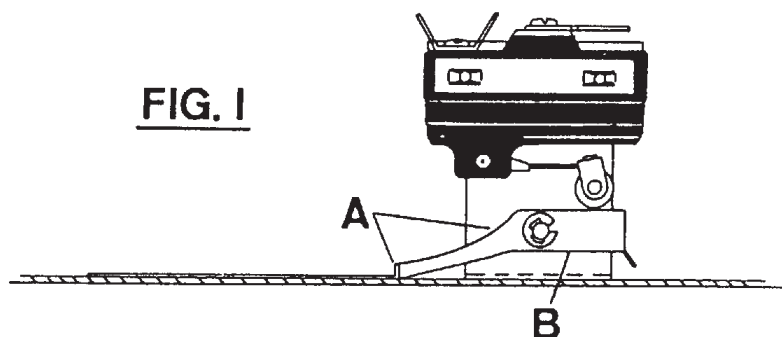

FIG. 1
1. Loosen bolts number one (1) through five (5).
2. Place pin “A” in position shown in figures 1 and 2.
3. Check pins “B” at position shown in figures 1 and 2 for equal clearance.
2. Lay air switch assembly on flat surface. Adjust air blade at "A" (figure 1) so that air blade lays flat and surface "B" is parallel to the flat surface.